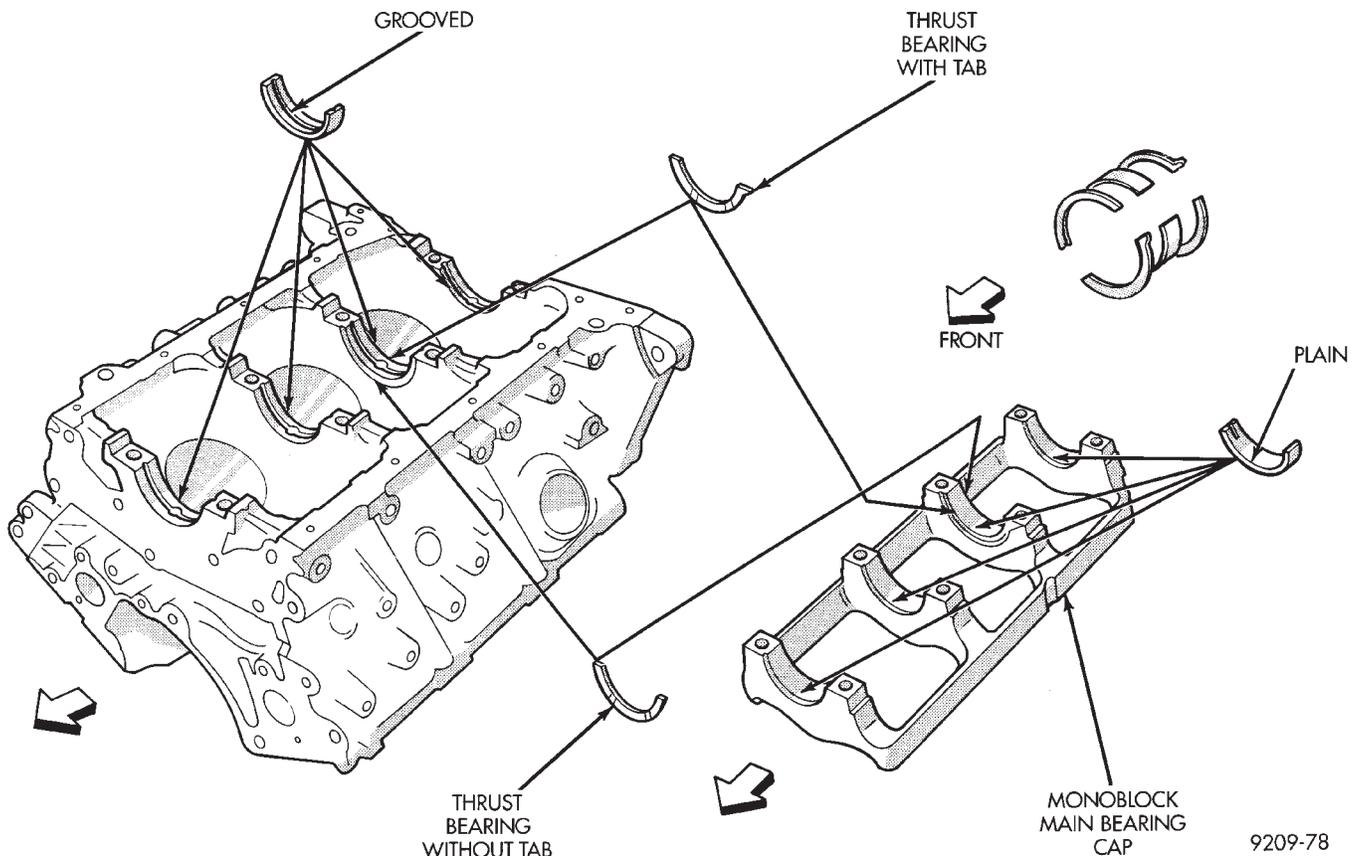

Fig. 9 Install Main Bearings
(1) Install upper main bearing shells making certain oil holes are in alignment, and bearing tabs seat in block tabs. All upper bearings have oil grooves (Fig. 9).
(Fig. 9) are different, one has end positioning tabs, while the other is plain. One **pair** of each thrust washers are installed into the block and one **pair** into the main bearing cap (Fig. 9).
(2) Apply a thin film of grease to plain side of thrust washers and position them on each side of number three main bearing. Grooved surface towards crankshaft.
(3) Oil the bearings and journals and install crankshaft.
(4) Install lower main bearing shells without oil grooves in monoblock cap.
(5) Install one pair of thrust washers in cap. Refer to Thrust Bearings (Fig. 9).
(7) Oil the bearing cap bolt threads, install and tighten bolts progressively in sequence shown in (Fig. 9) to 80 N•m (60 ft. lbs.) torque.